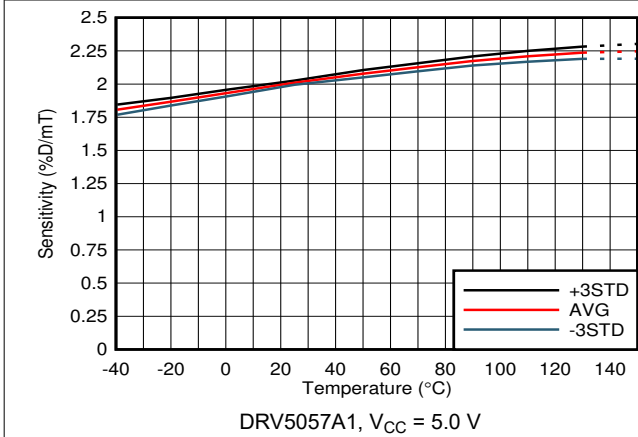
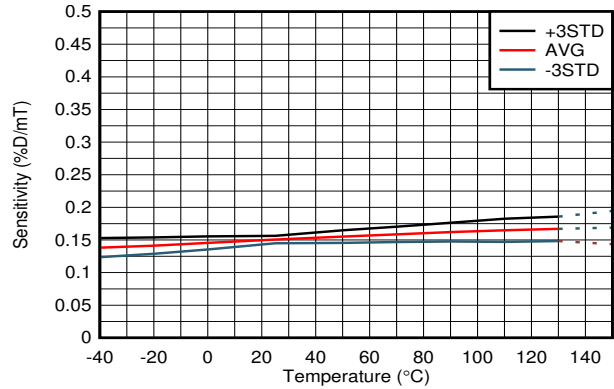

图 6-7. Sensitivity vs Temperature
图 6-20. Sensitivity vs Temperature
- (1) B is the applied magnetic flux density.
- (2) See the # 7.3.2 section.
- (3) B_L describes the minimum linear sensing range at 25°C taking into account the maximum V_Q and sensitivity tolerances.
- (4) S_{TC} describes the rate the device increases Sensitivity with temperature. For more information, see the # 7.3.4 section and 图 6-7 to 图 6-20.
- (5) Product Preview data only for DRV5055Z1 - DRV5055Z4 device options.